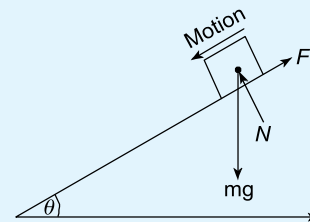

Figure 17.14
3. An experiment is required to obtain the static value of μ ; this is achieved by increasing the value of θ until the mass just moves down the plane, as shown in Figure 17.14. If the experimentally obtained value for θ was 22.5° , what is the value of μ ? [$\mu = 0.414$]